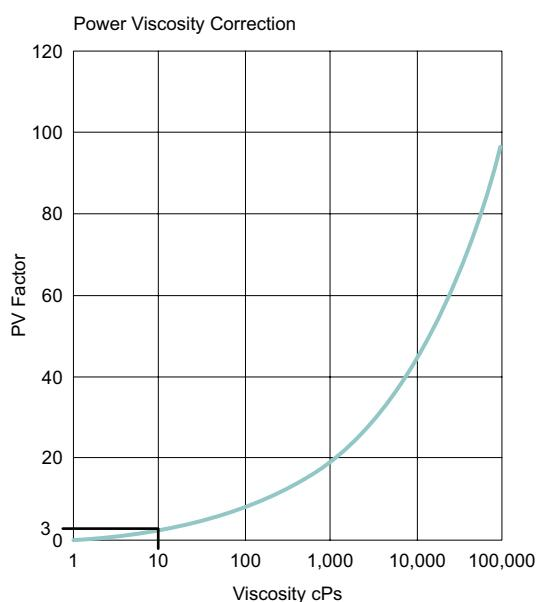

Fig. 7.6.3k
- Using the Power Viscosity Correction curve (Fig. 7.6.3k), starting at the duty viscosity of 10 cPs, draw a line parallel to the y-axis, until it intersects the curve
- Draw a line parallel to the x-axis, until it intersects the y-axis and read off the PV value (3)